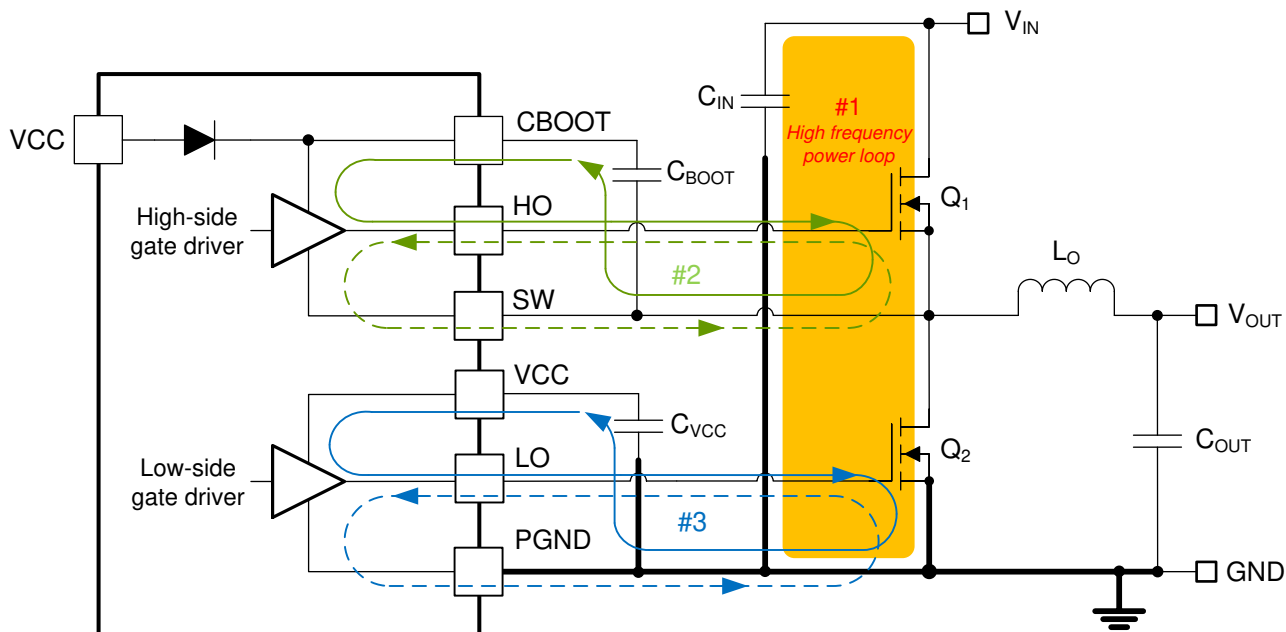

图 9-46. DC/DC Regulator Ground System With Power Stage and Gate Drive Circuit Switching Loops
Proper PCB design and layout is important in a high-current, fast-switching circuit (with high current and voltage slew rates) to achieve a robust and reliable design. As expected, certain issues must be considered before designing a PCB layout using the LM5148. The high-frequency power loop of a buck regulator power stage is denoted by loop 1 in the shaded area of 图 9-46. The topological architecture of a buck regulator means that particularly high di/dt current flows in the components of loop 1, and it becomes mandatory to reduce the parasitic inductance of this loop by minimizing its effective loop area. Also important are the gate drive loops of the high-side and low-side MOSFETs, denoted by 2 and 3, respectively, in 图 9-46.
- Loop 1: The most important loop area to minimize is the path from the input capacitor or capacitors through the high- and low-side MOSFETs, and back to the capacitor or capacitors through the ground connection. Connect the input capacitor or capacitors negative terminal close to the source of the low-side MOSFET (at ground). Similarly, connect the input capacitor or capacitors positive terminal close to the drain of the high-side MOSFET (at VIN). Refer to loop 1 of 图 9-46.
- The SW pin connects to the switch node of the power conversion stage and acts as the return path for the high-side gate driver. The parasitic inductance inherent to loop 1 in 图 9-46 and the output capacitance (C_{OSS}) of both power MOSFETs form a resonant circuit that induces high frequency (greater than 50 MHz) ringing at the SW node. The voltage peak of this ringing, if not controlled, can be significantly higher than the input voltage. Make sure that the peak ringing amplitude does not exceed the absolute maximum rating limit for the SW pin. In many cases, a series resistor and capacitor snubber network connected from the SW node to GND damps the ringing and decreases the peak amplitude. Provide provisions for snubber network
- Loop 2: high-side MOSFET, Q_1 . During the high-side MOSFET turnon, high current flows from the bootstrap (boot) capacitor through the gate driver and high-side MOSFET, and back to the negative terminal of the boot capacitor through the SW connection. Conversely, to turn off the high-side MOSFET, high current flows from the gate of the high-side MOSFET through the gate driver and SW, and back to the source of the high-side MOSFET through the SW trace. Refer to loop 2 of Figure 9-46.
- Loop 3: low-side MOSFET, Q_2 . During the low-side MOSFET turnon, high current flows from the VCC decoupling capacitor through the gate driver and low-side MOSFET, and back to the negative terminal of the capacitor through ground. Conversely, to turn off the low-side MOSFET, high current flows from the gate of the low-side MOSFET through the gate driver and GND, and back to the source of the low-side MOSFET through ground. Refer to loop 3 of Figure 9-46.